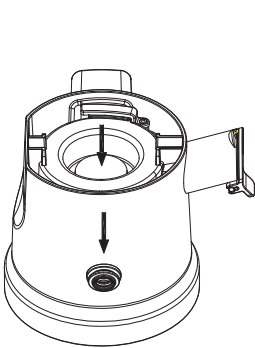

Fig 12a
- a. Turn the Squeezing Bowl upside down for easier handling, Push the seal ring out with your thumb (Fig 12a) and clean it with water.